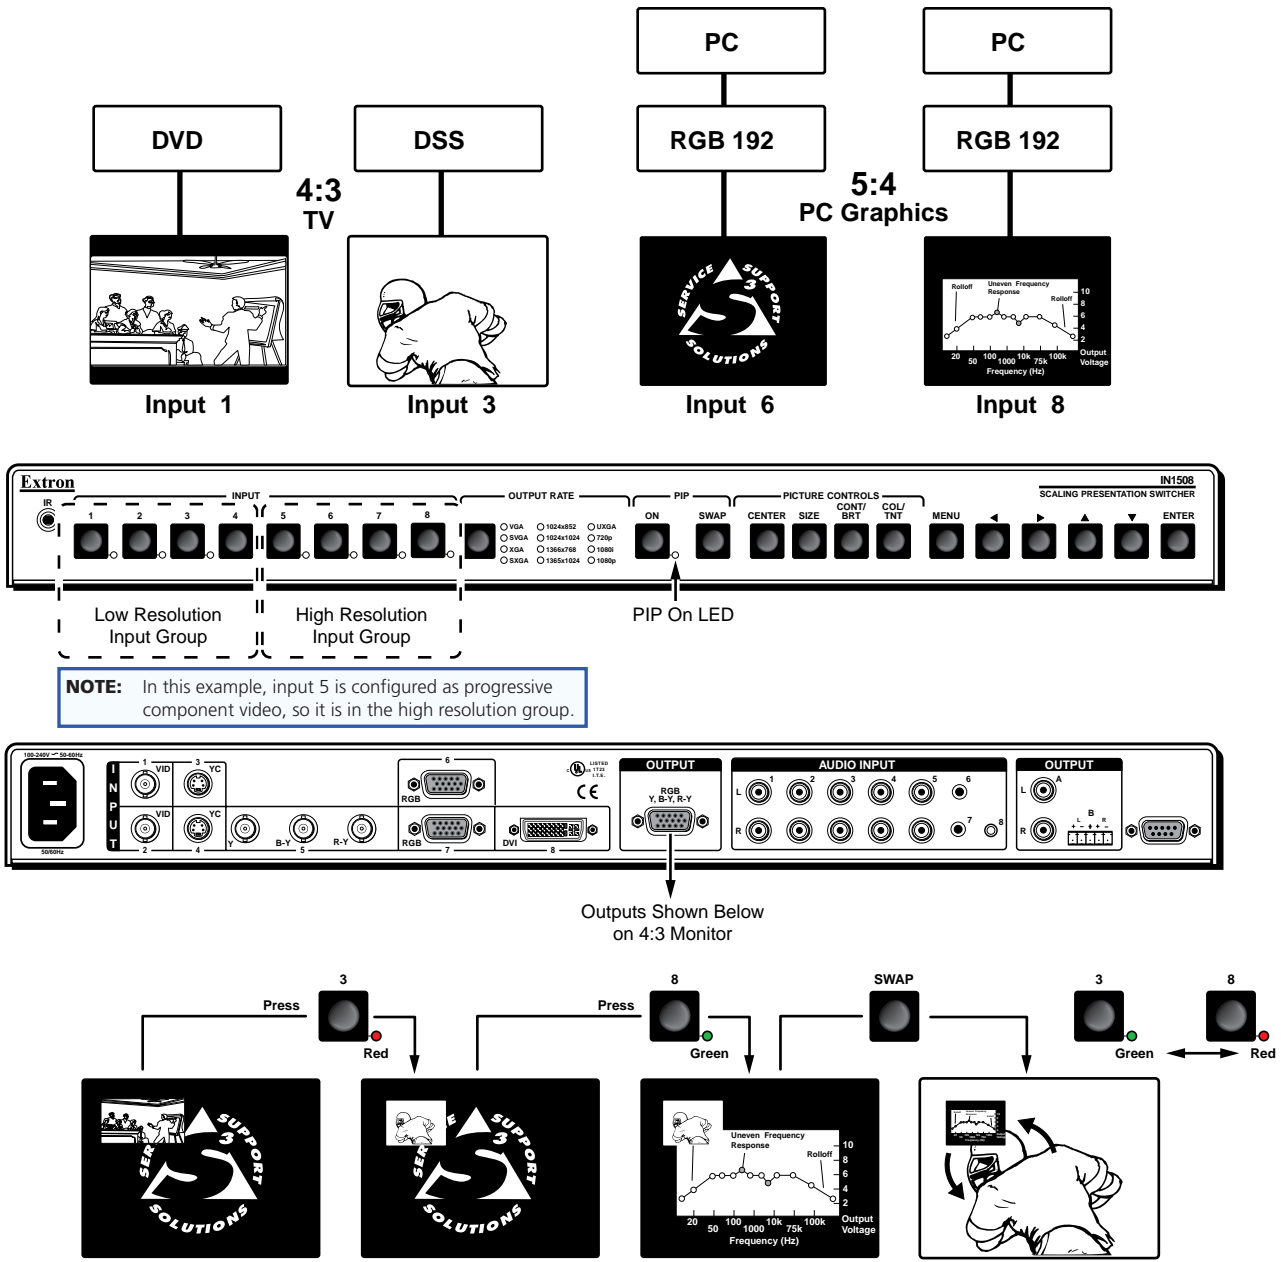

Figure 16. PIP Mode Input Selection and Swap Operations
Each of the inputs is assigned to one of two groups (see figure 16 on the next page):
- In figure 16, when you press the Input 3 button, input 3 replaces input 1 in the PIP window.
- In figure 16, when you press the Input 8 button, input 8 replaces input 6 in the main window.
- If the primary input (the image displayed in the main window) is a **high-resolution input**, the secondary input (the image displayed in the PIP window) **must** be a **low-resolution input** (see figure 16).
- If the primary input is a **low-resolution input**, the secondary input **must** be a **high-resolution input** (see figure 16).
The PIP function toggles between the selected input in each group. In figure 16, when you press the Swap button: